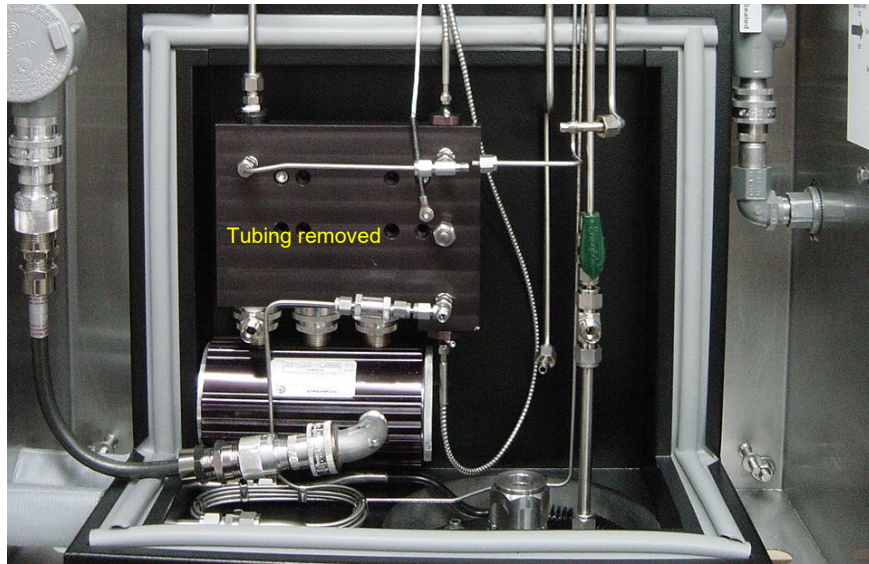

Figure 5: Oven Enclosure Tubing Removed
2. Remove the black cover from the **oven enclosure** and disconnect the tubing connected to the **measurement cell block** as shown in Figure 5.